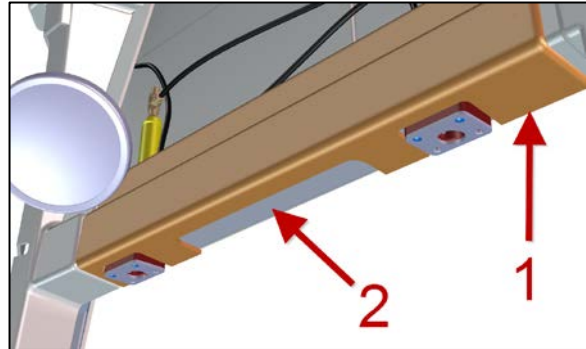
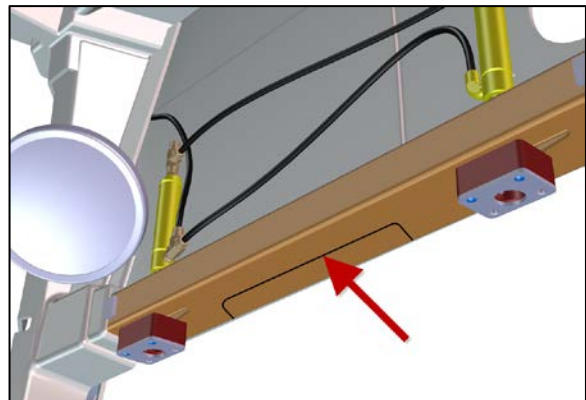

Figure 25
Figure 27
41. On the vehicle metal structure, mark up the shape of the moulding cut out (item 2, Figure 25).
43. Remove the new entrance door upper moulding (item 1, Figure 25). The arrow in Figure 27 shows the projection mark of the moulding cut out.